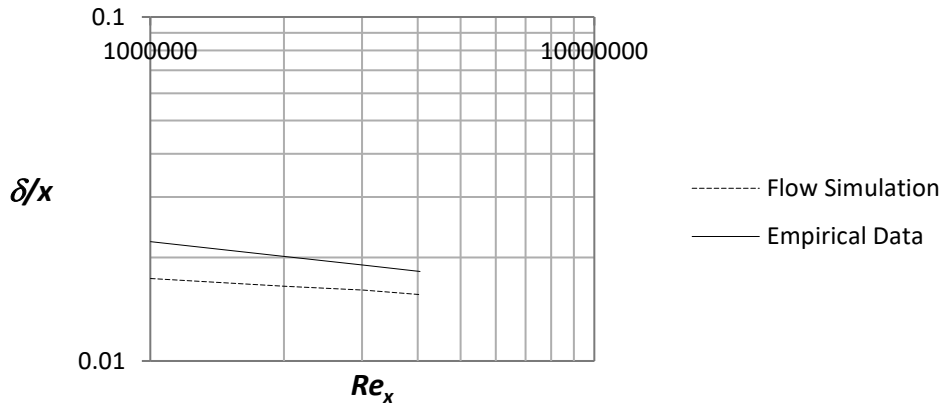

Figure 2.30b) Boundary layer thickness for turbulent boundary layers at  $Re_x = 10^6 - 4.04 \cdot 10^6$
Place the file “**graph 2.30b)**” on the desktop. Repeat step **24** and choose the sketch **x = 0.2, 0.4, 0.6, 0.8 m** and check the box for **Velocity (X)**. Rename the xy-plot to **Turbulent Boundary Layer Thickness**. An Excel file will open with a graph of the boundary layer thickness versus the Reynolds number, see figure 2.30b).